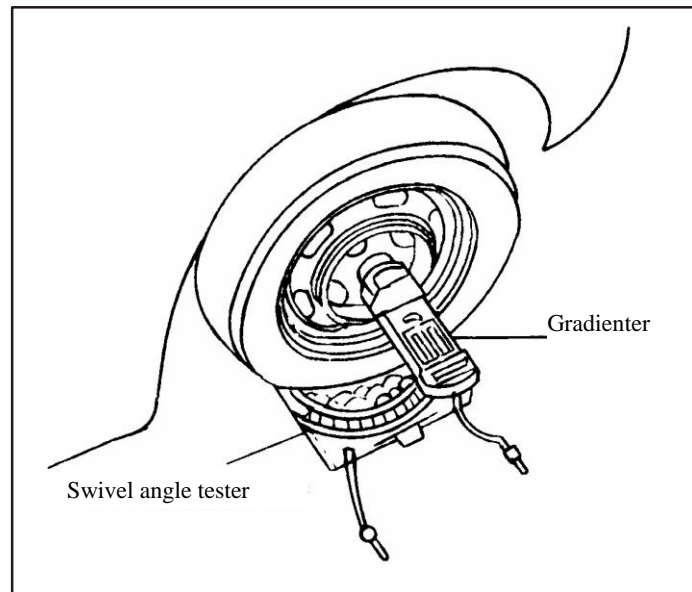
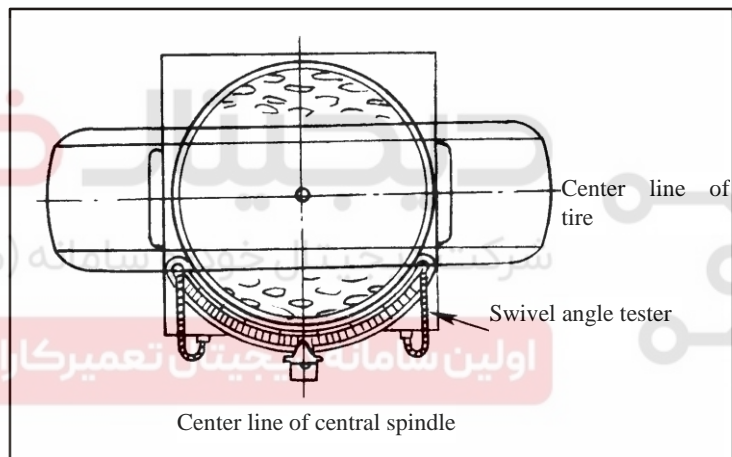
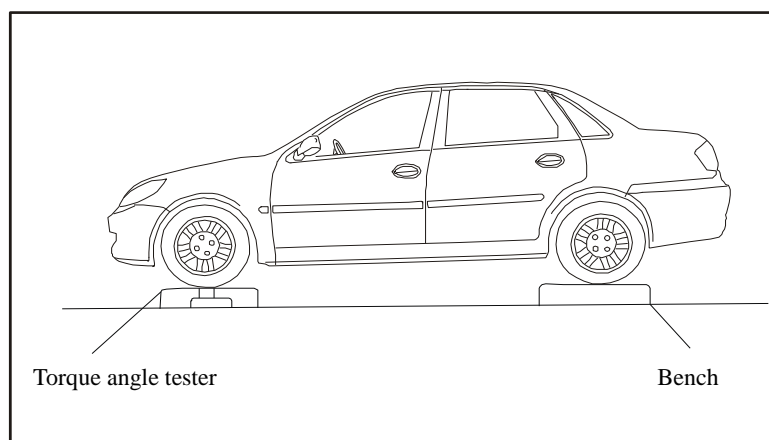
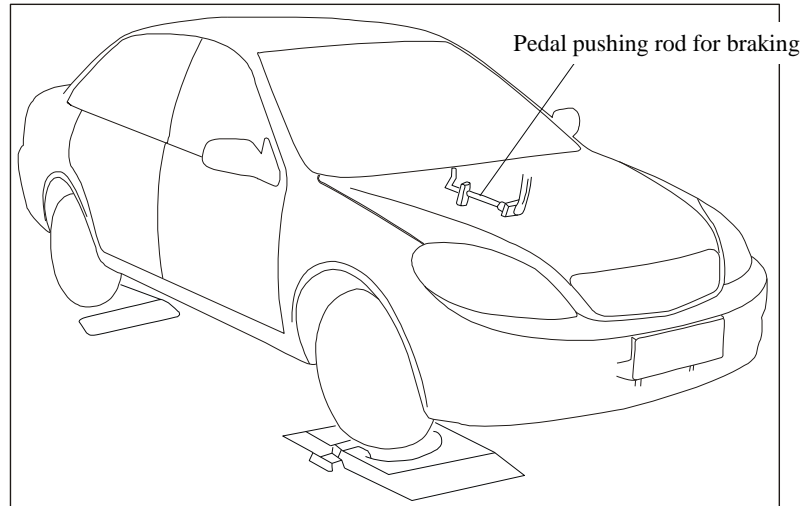

Figure 4-56 Horizontal Wheel Alignment Tester
Figure 4-57 Install Swivel Angle Tester
Figure 4-58 Put Bench Under Rear Wheel
Figure 4-59 Press Brake Pedal with Pushrod
(1) Install horizontal wheel alignment tester on wheel hub of tested wheel, as shown in Figure 4-56.
(2) Make wheels stay in straight line running position.
(3) Observe bubbles in the middle of tester, read wheel camber angle value, the front and rear wheel camber angle value shall be within specified range.
(4) When front wheel camber angle is more than $3^{\circ}30'$, rear wheel camber angle is more than $-1^{\circ}\pm 30'$, relevant components of front suspension system and rear suspension system shall be inspected for deformation or damage, inspect bodywork for deformation, find out cause and clear fault, re-inspect front, rear wheel camber angle until they are normal.
Inspect kingpin caster angle and kingpin inclination angle using horizontal wheel alignment tester, place front wheel on swivel angle tester, to align the point of intersection of center line of tire and centre line of central spindle with tester center (as shown in Figure 4-57). Put a bench equal to the height of tester under rear wheels (as shown in Figure 4-58), to make sure all wheels are in the same plane. Install horizontal wheel alignment tester, on wheel hub of front wheel (as shown in Figure 4-56), measure kingpin inclination angle and caster angle, deflect front wheel to left and right for a certain angle (usually 20°), the wheel angle of deflection is controlled by swivel angle tester. In order to avoid test result influences due to wheel rolling, press foot brake pedal using a brake pedal push rod (as shown in Figure 4-59), rather than by an operator in the vehicle.
(1) Place tester under front wheel and cushion under rear wheel, to hold the vehicle in a horizontal status, as shown in Figure 4-57 and Figure 4-58.
(2) Push on brake pedal, turn steering wheel to the end from right to left and left to right, measure steering angle of both front wheel. The specified steering angle: inner wheel $38^{\circ}50'$, outer wheel $31^{\circ}40'$.
(3) If tested steering angle is not within specified value, components of front suspension system shall be inspected for bend or damage.